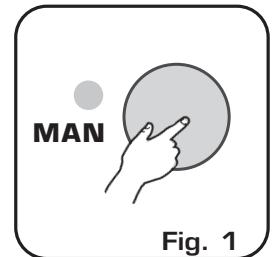

Fig. 1
- Hold pressed the **MAN** key (Fig.1) and Turn on the V-MIX through **Power** key placed on the rear **at the same time**.